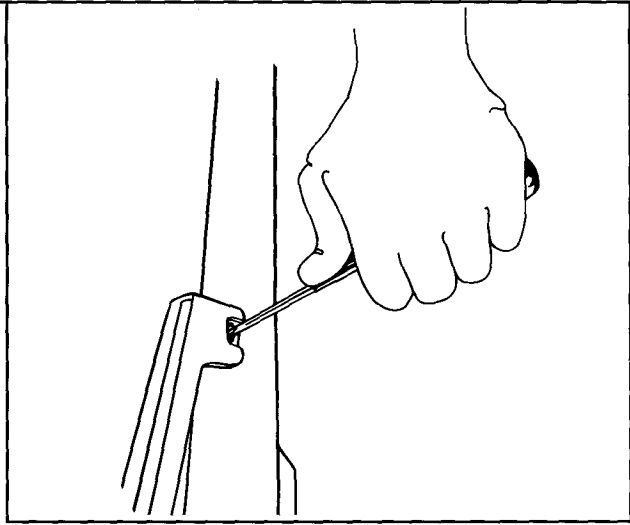

*Figure 75*
- b. Install door handle side trim over the top and bottom trim. See Figure 75.**